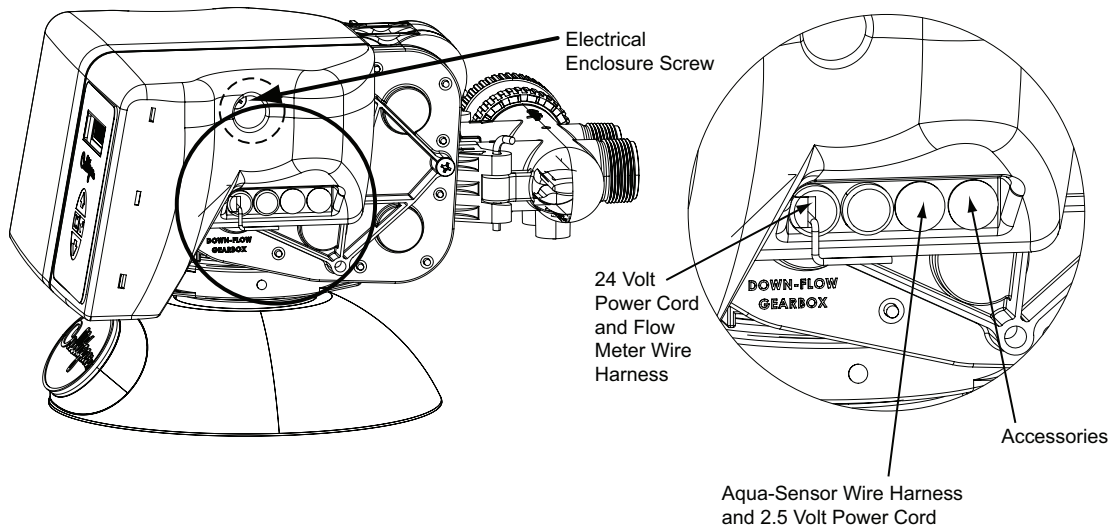
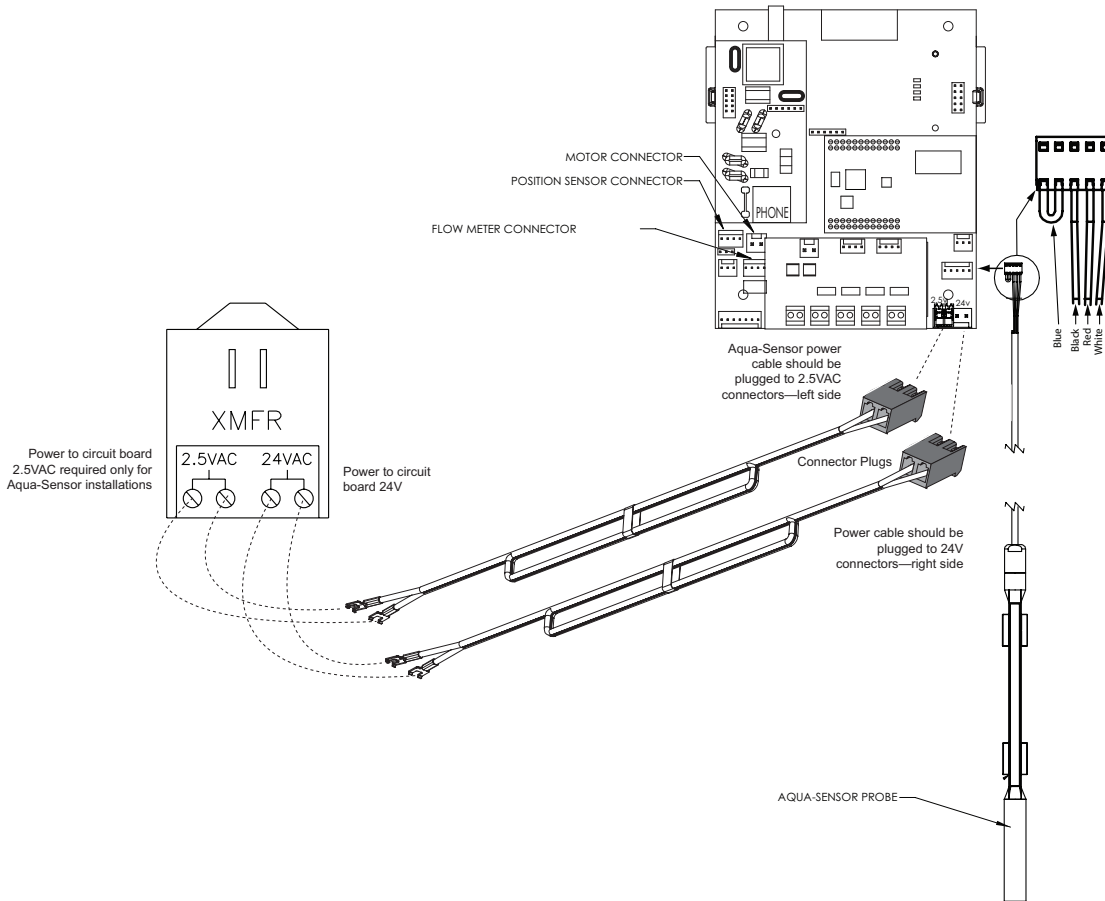

Figure 17. Circuit board connections.
Figure 20. 2.5 VAC Aqua-Sensor® power connection.
The 24 Volt power supply and flow meter wire harness is already connected to the circuit board. If no other circuit board connections are required proceed to the First Time Setup. Refer to the instructions below and Figure 17 to Figure 20 for connecting the Aqua-Sensor probe wire harness to the circuit board.
1. Remove the electrical enclosure from the control valve. First remove the electrical enclosure screw and then gently remove the enclosure from the control. Refer to Figure 17 and below instructions.
7. Insert the Aqua-Sensor 2.5 VAC power cord through the third hole on the enclosure. Insert the Aqua-Sensor sensor probe wire harness through the fourth hole on the enclosure. See Figure 17.
8. Connect Aqua-Sensor probe wire harness to the circuit board. The Aqua-Sensor probe terminal is labeled "Aqua-Sensor." See Figure 20.
- d. Connect the other end of the power cord, with the spade terminals, to the two 2.5 VAC terminals on the transformer. See Figure 20.